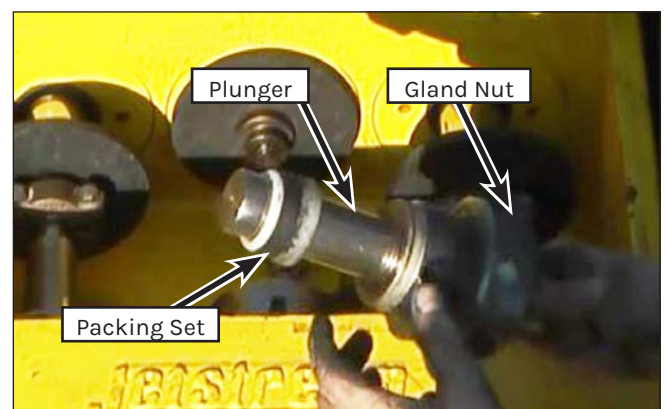

Figure 89: Packing removal.
9. Remove the packing set (Figure 89).